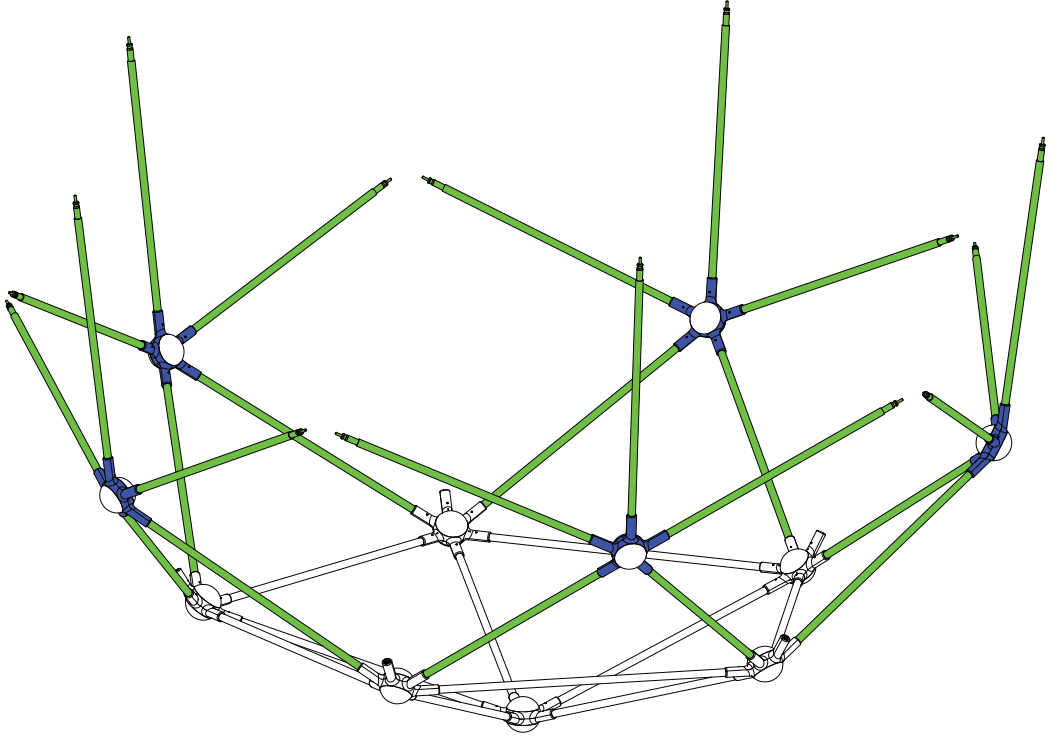

Fig. 6
- a. Attach five of the completed H5 Hub clusters to H6 Hubs as shown in Fig. 6.